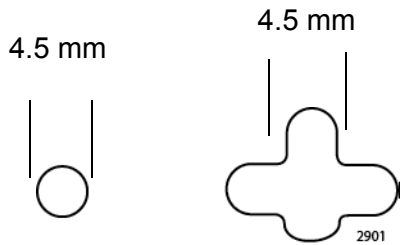

Figure 12. Hole Dimensions
- The holes have a diameter of 4.5 mm (0.2 in.). Refer to Figure 12.